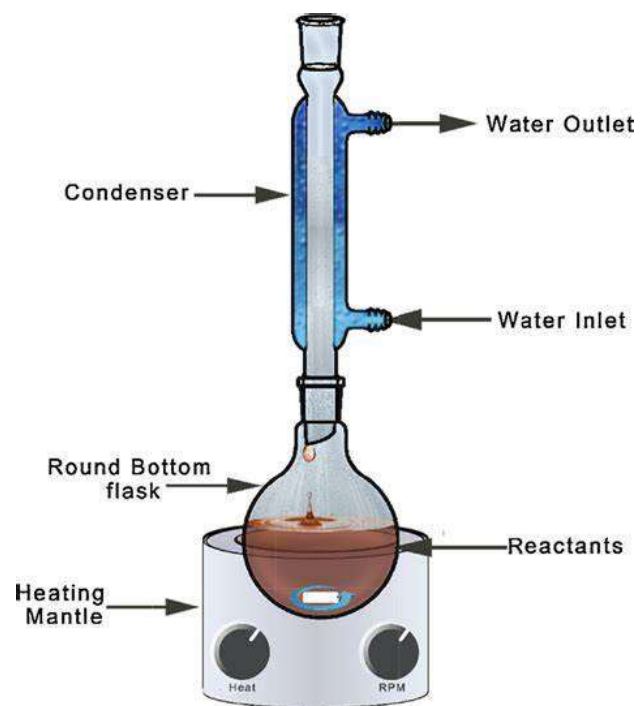

Figure 5.1: Set up for saponification process using Liebig condenser.
3. Fit the flask with Liebig's condenser as shown in Figure 5.1.